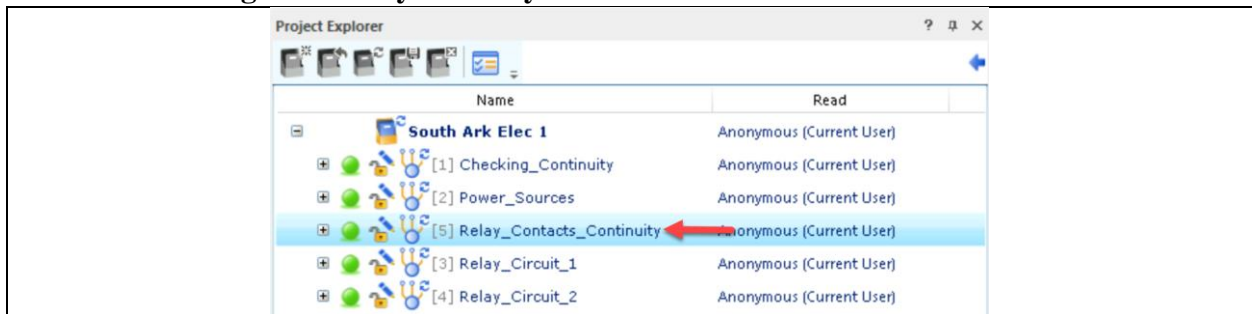

Figure 10. Navigating to the Relay_Contacts_Continuity document.
1. Navigate to the Power_Sources document in the project as shown in Figure 10.